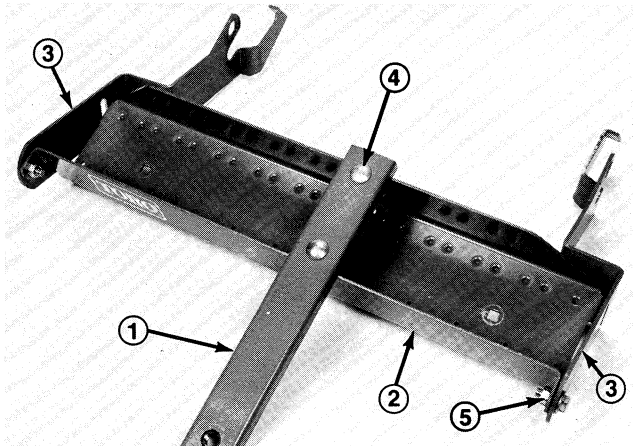

Figure 1
1. Mount caster frame to main frame with (2) 5/16-3¼ lg. carriage bolts and locknuts as shown in Figure 1.
2. Mount front of right and left side frames to main frame with a shoulder screw and locknut as shown in Figure 1. Note position of side frames.